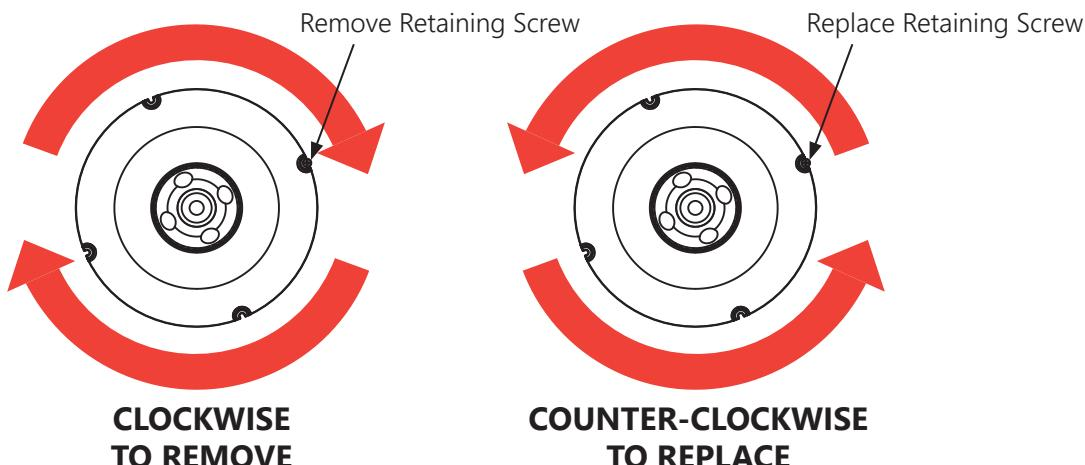

FIGURE 2: LED MODULE INSTALLATION
Each unit is carefully packed at the factory and comes with a construction debris cover that prevents most construction contamination prior to operation. Remove the light module from the body by first removing the LED Module Restraining Screw, and then turn the light module **CLOCKWISE** to remove (Figure 2). Install the debris cover. Put the light module in a safe place until ready for final installation.
C.1.5 After the system has been started, adjust the height of the water using this valve to get the desired effect. The following tables (FIGURE 2) provides approximate values for water column height with combinations of GPM and depth of the Brilliant Wonders Lighted Bubbler mounted in the horizontal position.
**⚠️ CAUTION INSTALL CONTROL BOX AT LEAST TWO (2) FEET ABOVE THE WATER LEVEL**